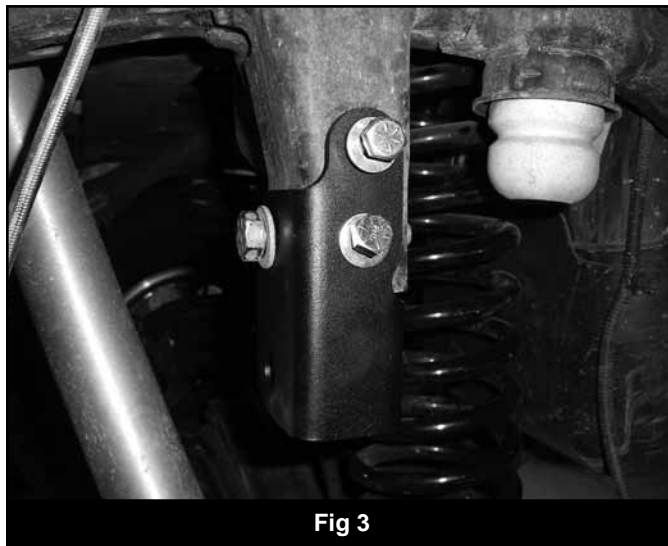

Fig 3
7. Fasten the new bracket to the frame through the outer holes using the provided 7/16" hardware (Fig 3). The bottom hole uses the larger diameter USS washer on the inside to go against the slot in the frame. Torque 7/16" hardware to 40 ft-lbs.